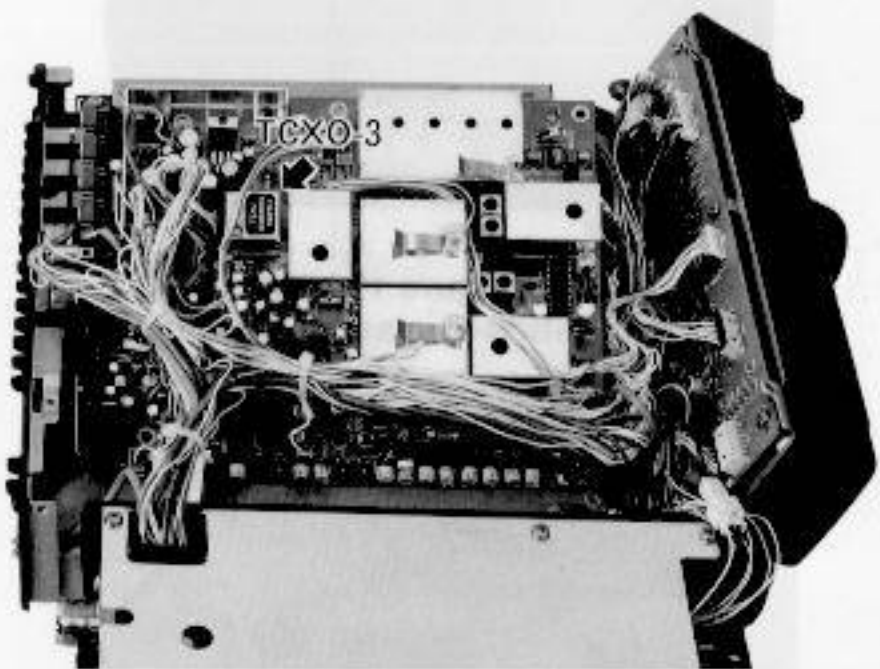

Figure 9: TCXO-3 Orientation
- Straighten the leads on the TCXO-3 module, if necessary. Then position it so that the trimmer hole is oriented as shown in Figure 9 (the label should be upside-down when viewed from the rear), and push the module leads through the board. Hold the module snug against the board while soldering it in place on the other side. Cut any excess lead length.